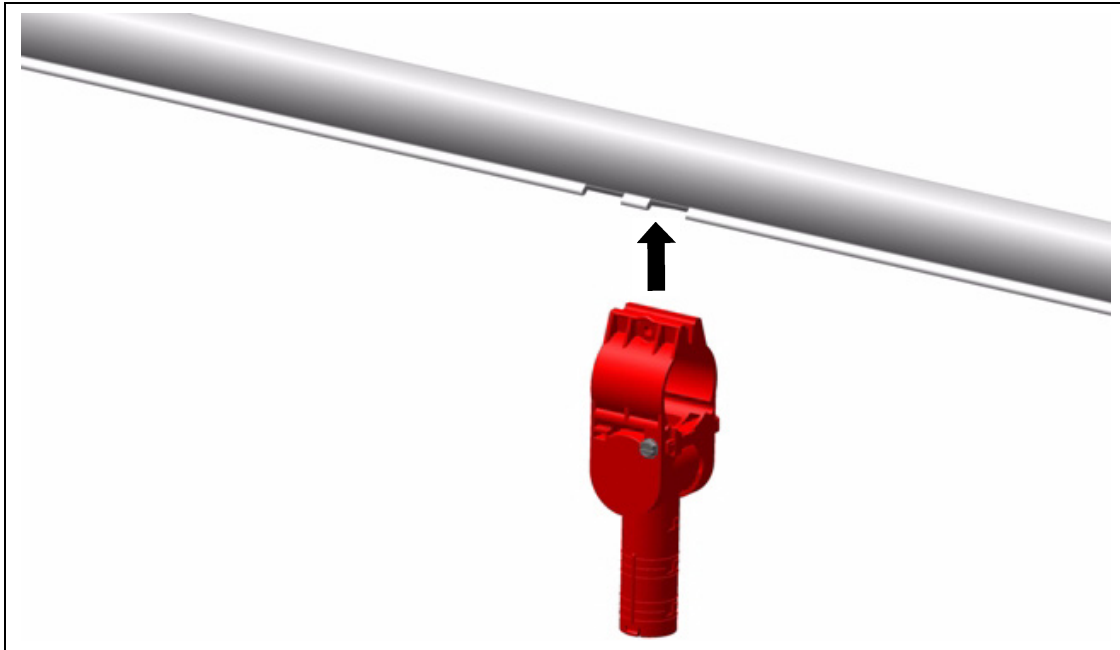

Figure 1
1. Snap the chick booster onto the auger tube as shown in Figure 1, centering the drop tube over the feed outlet hole.